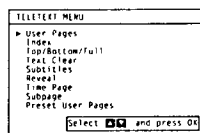

Fig. 34.
- 1 Press MENU. The menu will be superimposed on the teletext display. (See Fig. 34)